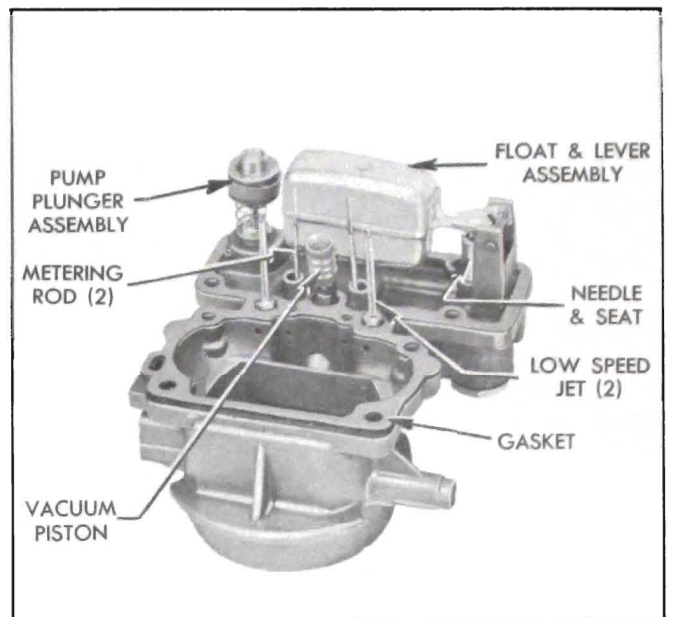

Figure 3-33—Air Horn Parts
vacuum link, then remove link from air horn. Leave metering rod spring in link. See figure 3-33.
9. Remove float lever pin and lift off float assembly. Shake float to see if it is "loaded" with gasoline due to a leak. Remove float needle seat, and gasket. Remove both low speed jets from air horn. See figure 3-33.